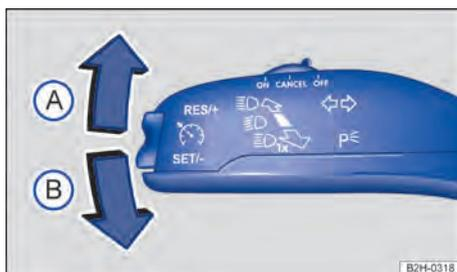

Fig. 81 On the left-hand side of the steering column: Turn signal and main beam lever
2. Move the turn signal and main beam lever from the centre position to the following position → Fig. 81: